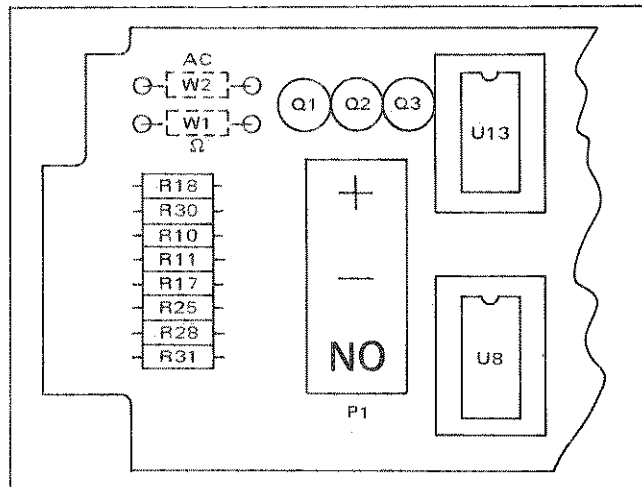

Figure 2.17 - Jumper Location
2.111 When an option is added or removed from the instrument, a jumper corresponding to the option is removed or added to allow proper operation of the NO circuitry. The two jumpers (W1 Ohms and W2 AC) are located on the display board, shown partially in figure 2.17. When an option is added, the corresponding jumper is added; conversely, when an accessory is removed, the jumper is removed.